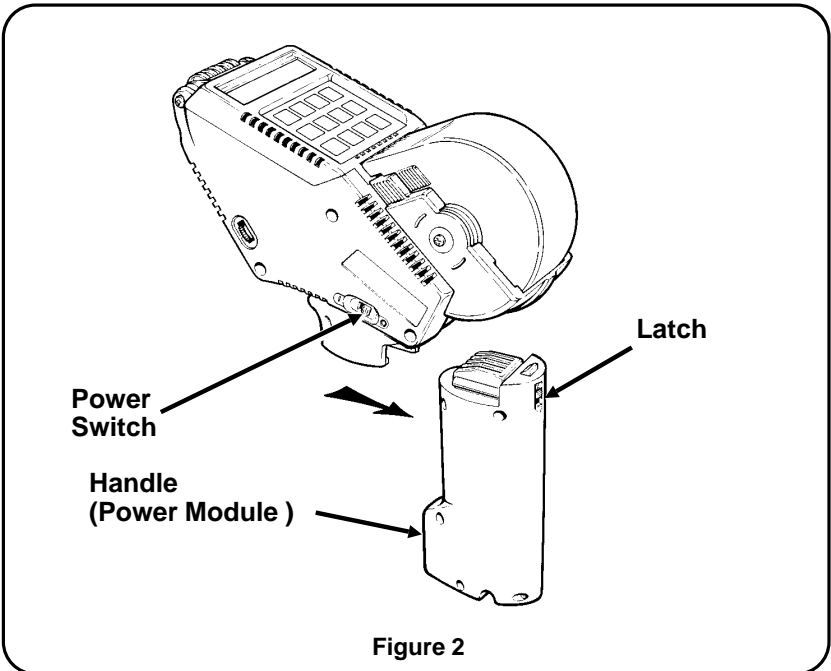

Figure 2
1. Push the power switch off (Figure 2).